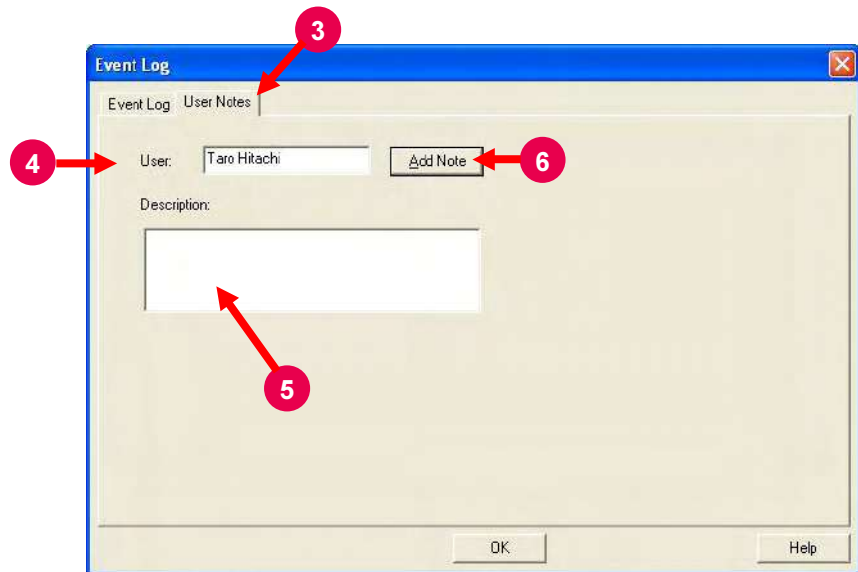

Fig. 8-15 User Notes Tab
- (4) For adding a user note, click the User Notes tab. (Refer to ③ in Fig. 8-15.) A tag page as in Fig. 8-15 will appear.
- (5) Input a user name. (Refer to ④ in Fig. 8-15.) Enter a note in the Description input box. (Refer to ⑤ in Fig. 8-15.)
- (6) Click the **Add Note** button. (Refer to ⑥ in Fig. 8-15.)
- (7) Upon clicking the **Remove All** button, the confirmation message show below will appear.